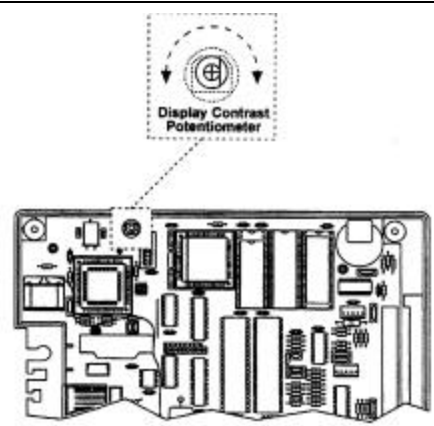

Figure 38: Display Contrast Potentiometer Location
- #### 2. Adjust the contrast of the terminal's display. Refer to Figure 38.